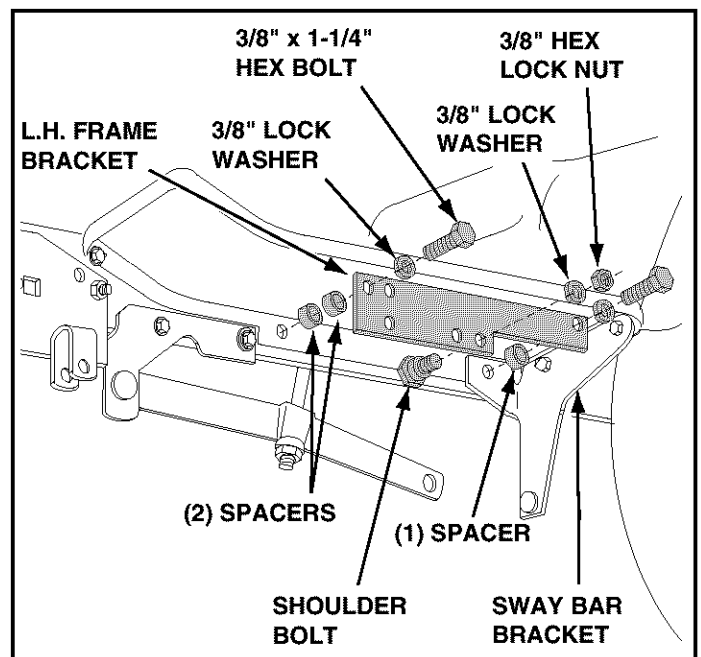

FIGURE 6 LEFT SIDE VIEW
- Assemble a frame bracket to the L.H. foot rest and sway bar bracket as shown in figure 6. Use two 3/8" x 1-1/4" hex bolts, **three** spacers and two 3/8" lock washers.
- Assemble a shoulder bolt to the inside of the L.H. frame bracket, securing it with a 3/8" lock washer and a 3/8" hex lock nut. See figure 6.